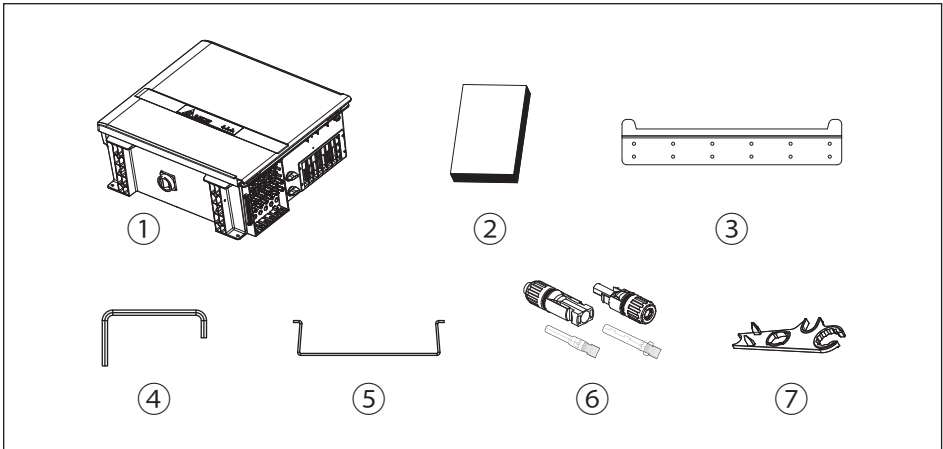

Figure 2-1: Components
The components are shown as **Figure 2-1**.
2. Orient the mounting bracket (item 3, **Figure 2-1**) horizontally (perpendicular to the floor) as **Figure 3-4**.